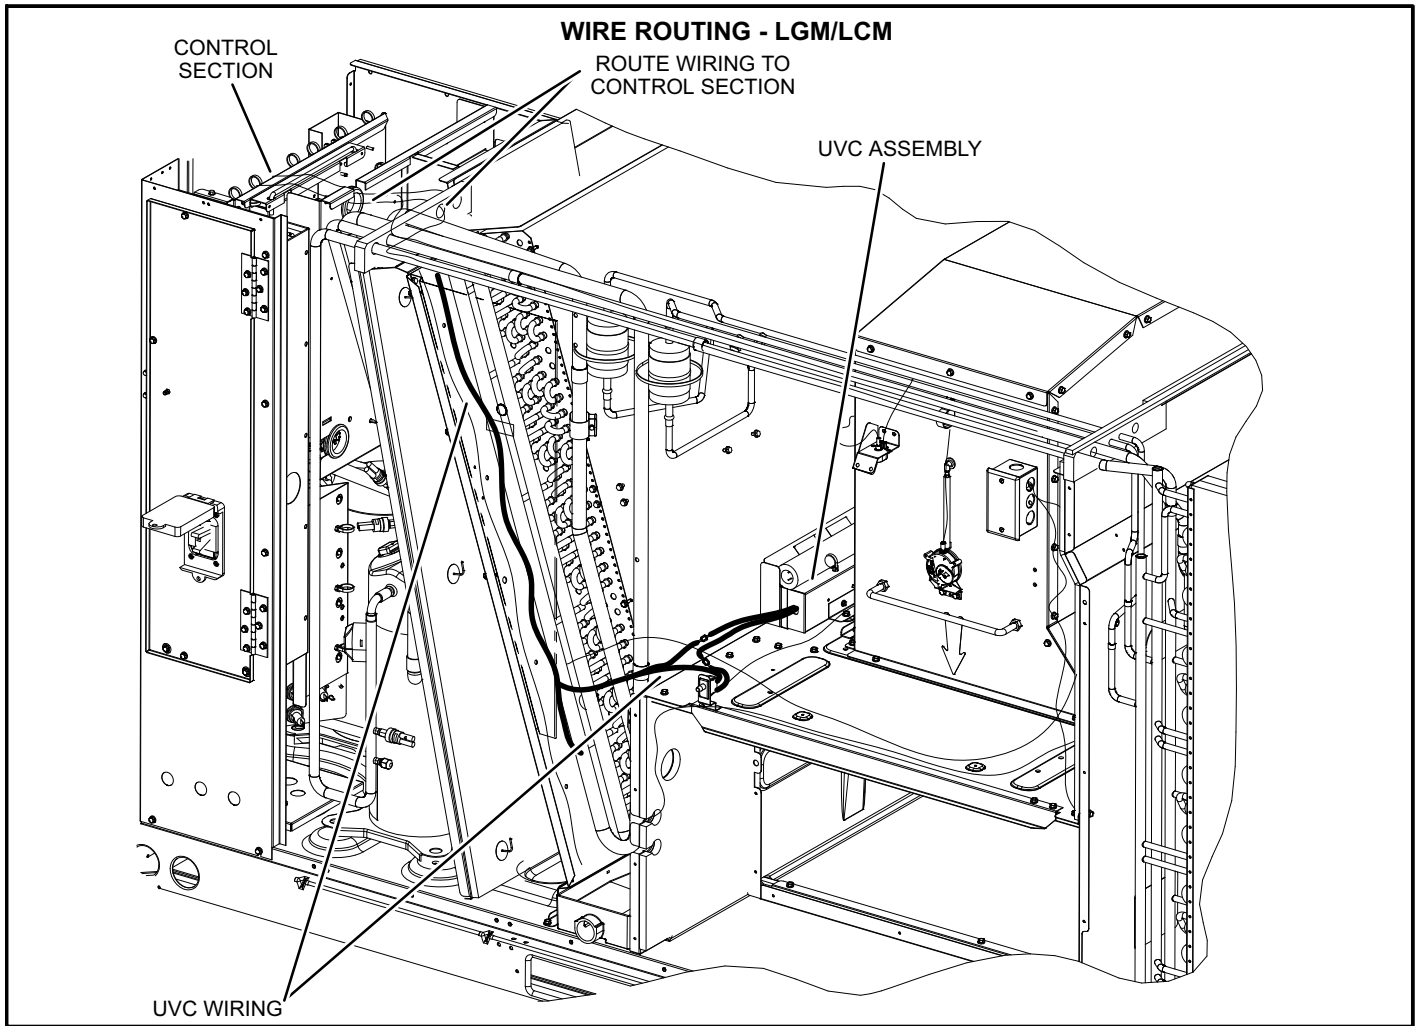

FIGURE 4
- 1- Route the power cable wires as shown in figure 4.